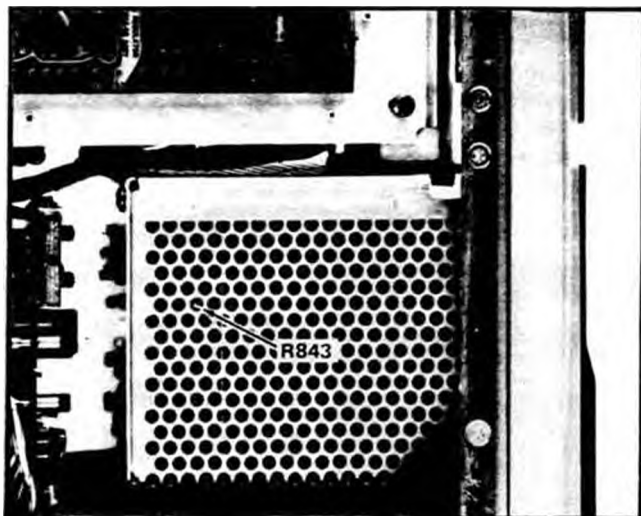

Fig. 5-3. Location of +75 Volt adjust R843.
d. ADJUST— +75 Volt adjust R483 (see Fig. 5-3) for a meter reading of exactly +75 volts.